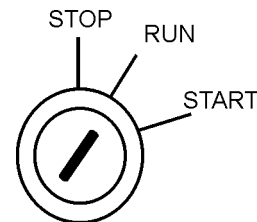
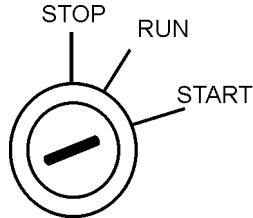

Figure 40. Ignition Switch Pre-Heat (Run Position)
Figure 42. Ignition Switch (Start Position)
1. In warm weather conditions, skip to step 3. In cold weather conditions, preheat the engine glow plugs by turning the ignition key (Figure 40) to the **RUN** position
- Turn the ignition key to the start position (Figure 42). Once the engine starts, release the ignition key and allow it to return to the **RUN** position (Figure 40).